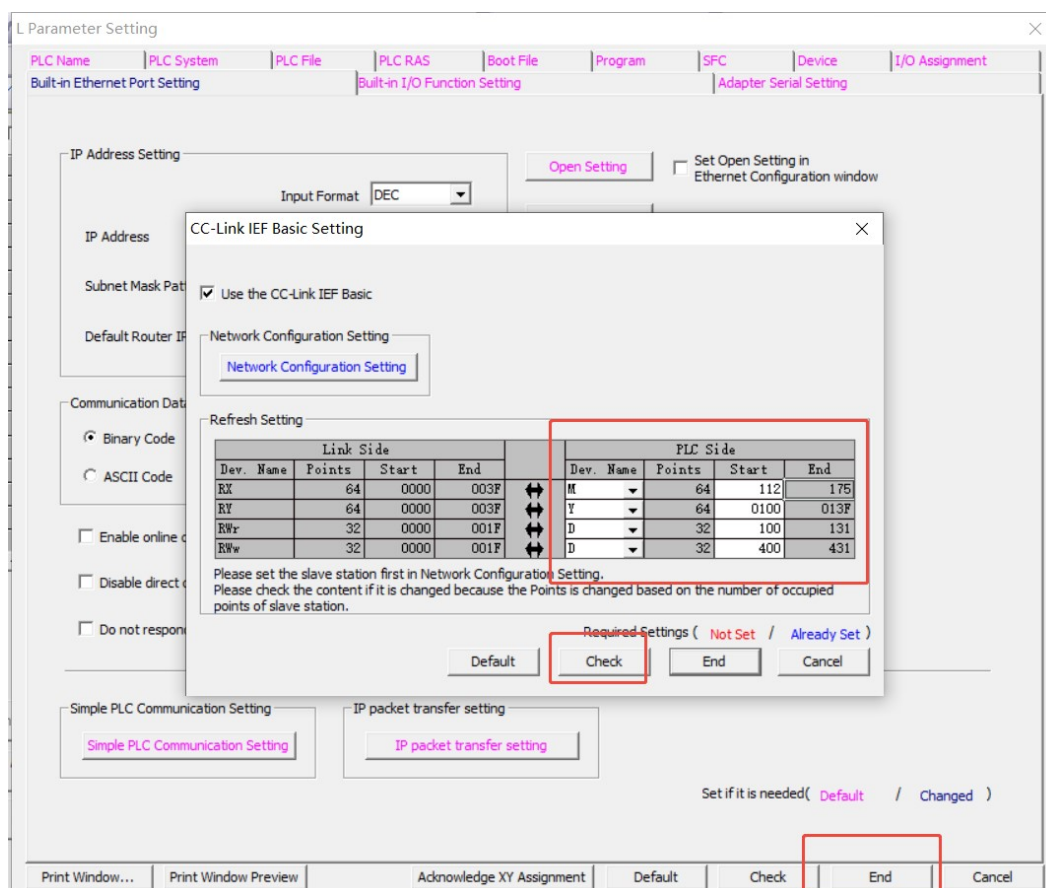

Figure 5-3-9 IO Mapping Configuration
**I/O Mapping Configuration:** In the CC-Link IE Field Basic configuration window, set the starting address points for the remote I/O module's inputs and outputs, as shown in Figure 5-3-9.